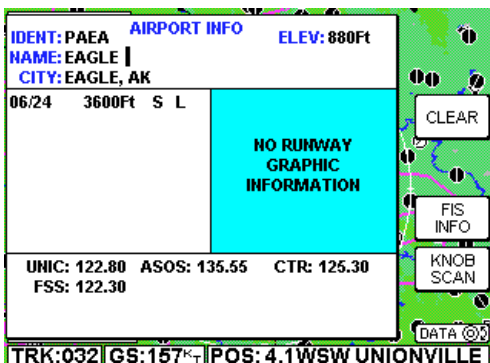

Figure 13
6. Since **EAGLE** is now displayed, turn the outer knob clockwise until the cursor is positioned for the next character entry as shown in Figure 13.